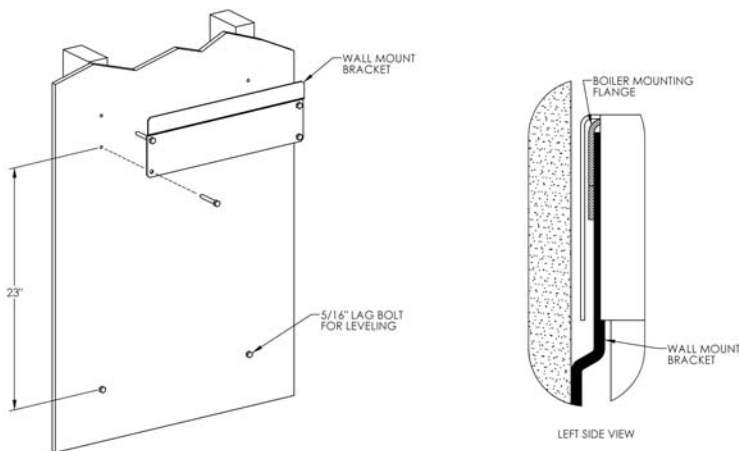

Figure 2.1: Optional Wall Mounting Bracket for PF-50, PF-80, PF-110 and PF-140 Boilers
- c. The mounting bracket has (4) holes on 16" centers as shown in Figure 2.1. This is intended to give installers the ability to mount the bracket on two wall studs spaced at this interval. If existing wall studs are spaced differently or if the desired location is not in line with the wall studs, additional support is required.
- d. Install the two additional lag bolts supplied with the boiler into the wall structure approximately 23" below those used to attach the wall mounting bracket to the wall as shown in Figure 2.1. The depth that these are threaded into the wall can be adjusted to assure level mounting of the boiler.